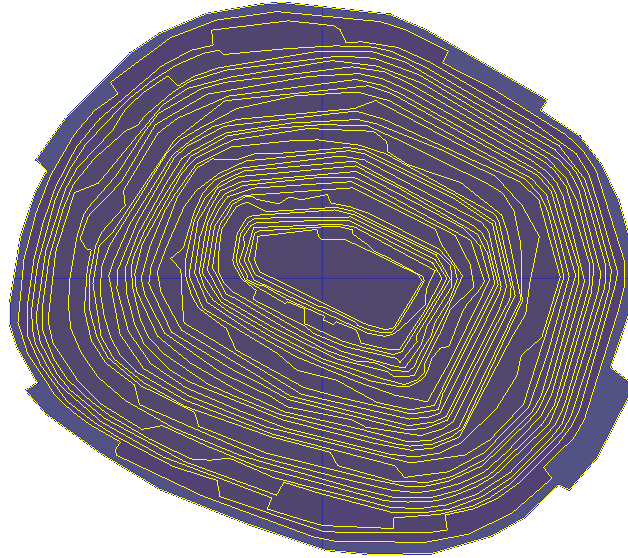

Figure 122: Top view of all the surfaces with all the border curves highlighted.
21. Select the **Top** view, select all surfaces and type **_DupBorder** to extract the curves representing the boundaries of all the surfaces you have created. These curves are essentially the polylines you created by tracing over the contours (Figure 122).